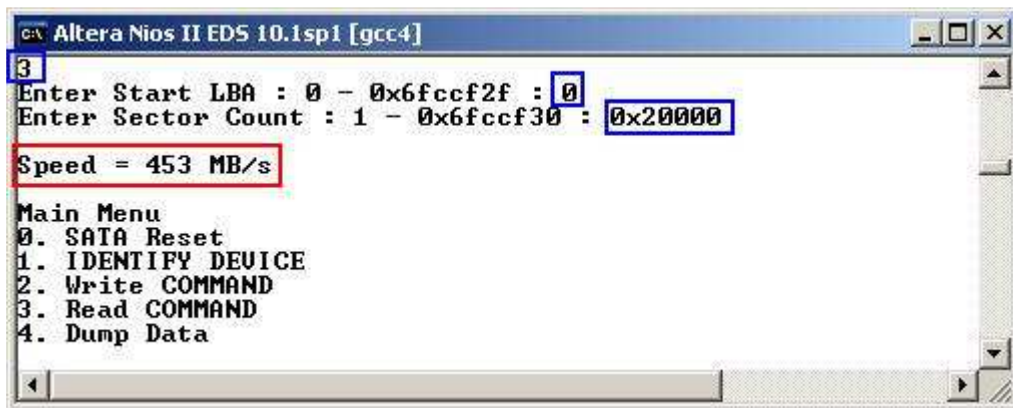

Figure 14 READ COMMAND without Verify
- Sector Count: this value is used to be total transfer size in sector unit (512 byte) to read HDD/SSD. If this value is more than 65536 which is read buffer size value, transfer speed will be displayed as output without verify, as shown in Figure 14.